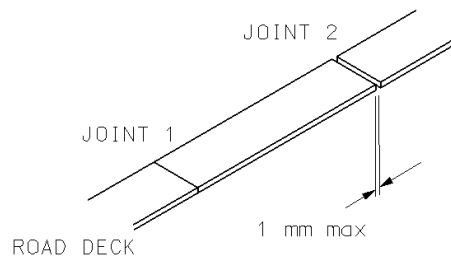

Figure 3: Joints Across Road Deck
- ◆ The solid road deck may have up to six joints running *across* the road deck. Gaps between joints may not exceed 1 mm (see Figure 3).